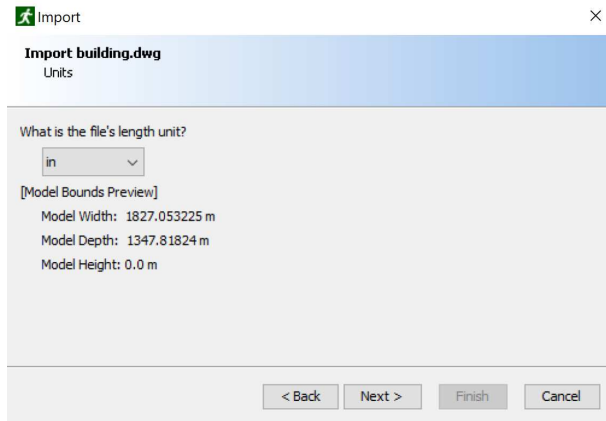

Figure 82. CAD import dialog (units)
2. After selecting a file, a step-by-step dialog will open as shown in Figure 82.